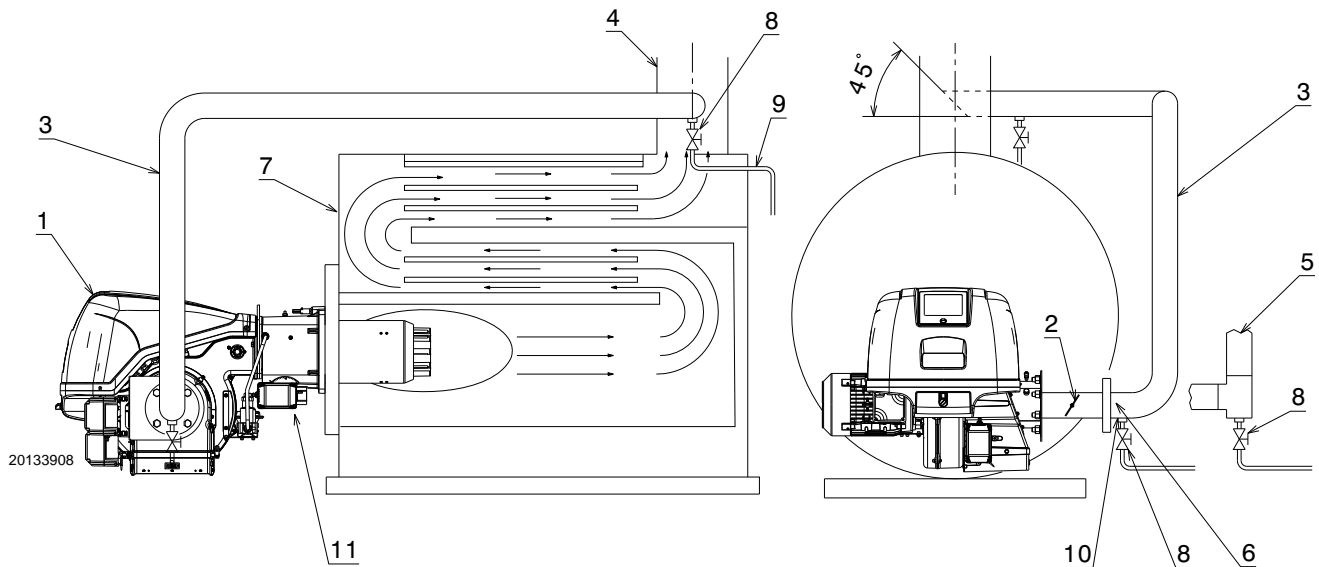

Fig. 16
- Normally the duct would connect to the stack as shown in Fig. 16, with a 45° cut facing the flue gas flow and with the center of the cut centered in the stack.
Key (Fig. 16)
Burner output kW	Flue gas pressure at test point 6)(Fig. 16) - mbar